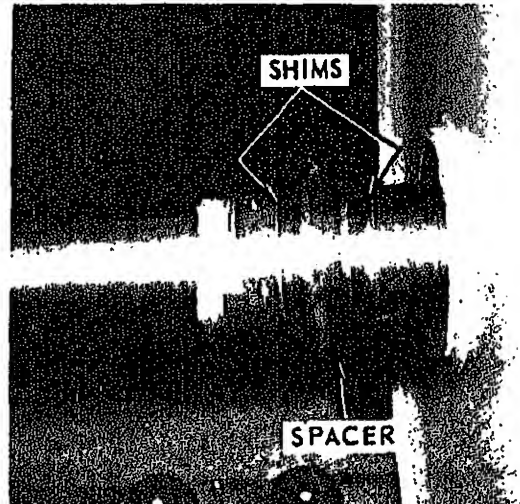

FIGURE 9-105.
d. Install shim(s) in original location (see step e, paragraph 9-101). Insert shaft into one drum, then insert the other drum on the other side of the shaft assembly (see figure 9-105).